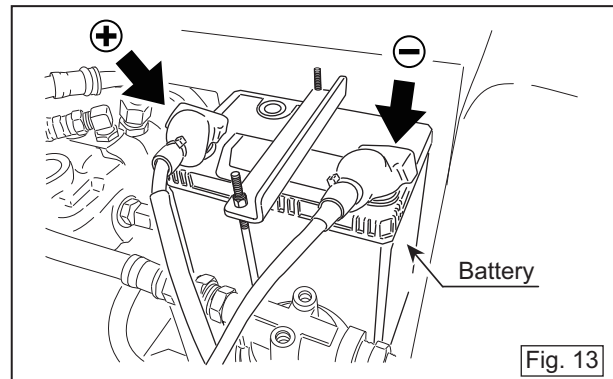

Fig. 13
2. Turn off the key switch and remove the negative terminal from the battery. (Fig. 13)